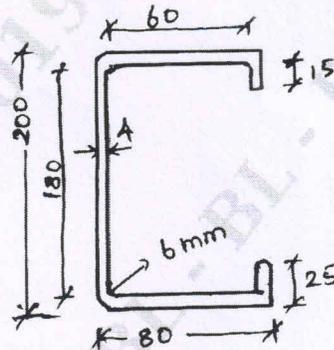

Fig Q8(b)
b. Determine the allowable load/m on a beam with cross section shown in Fig Q8(b). The beam has an effective span of 4m. The steel has a yield point of 235N/mm^2 . Take $E = 2 \times 10^5 \text{ N/mm}^2$.